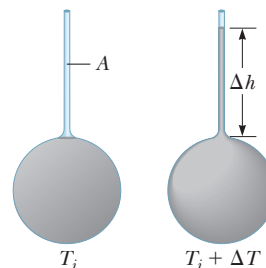

Figure P19.51
51. A mercury thermometer is constructed as shown in Figure P19.51. The Pyrex glass capillary tube has a diameter of 0.004 00 cm, and the bulb has a diameter of 0.250 cm. Find the change in height of the mercury column that occurs with a temperature change of  $30.0^\circ\text{C}$ .
52. A liquid with a coefficient of volume expansion  $\beta$  just fills a spherical shell of volume  $V$  (Fig. P19.51). The shell and the open capillary of area  $A$  projecting from the top of the sphere are made of a material with an average coefficient of linear expansion  $\alpha$ . The liquid is free to expand into the capillary. Assuming the temperature increases by  $\Delta T$ , find the distance  $\Delta h$  the liquid rises in the capillary.